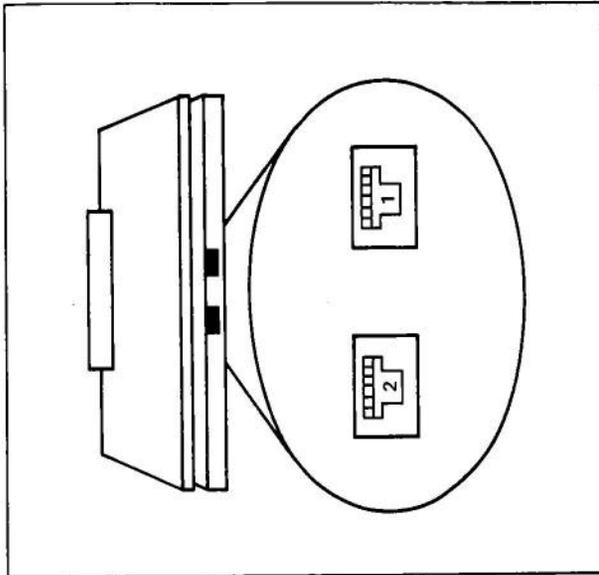

Figure 7 – Thumbwheel Switch Location
**Step 7** - Two thumbwheel switches are located near the rear edge of the Module. (See Figure 7.) Both of these must be set to a specific digit in relation to the Reference Numbers assigned to the Module's 2 channels. Read Application Note 9 and refer to Table C. Also use the list described earlier in this publication at "Switch Settings."
9. Thumbwheels near the rear edge of the Module identify each circuit with respect to a specific Reference Number and output register. When looking at the Module so that the label is readable, the lower thumbwheel identifies the bottom channel; the higher thumbwheel identifies the top channel. See Figure 7 and Table C. Exact settings must be supplied on system drawings to aid installation teams.